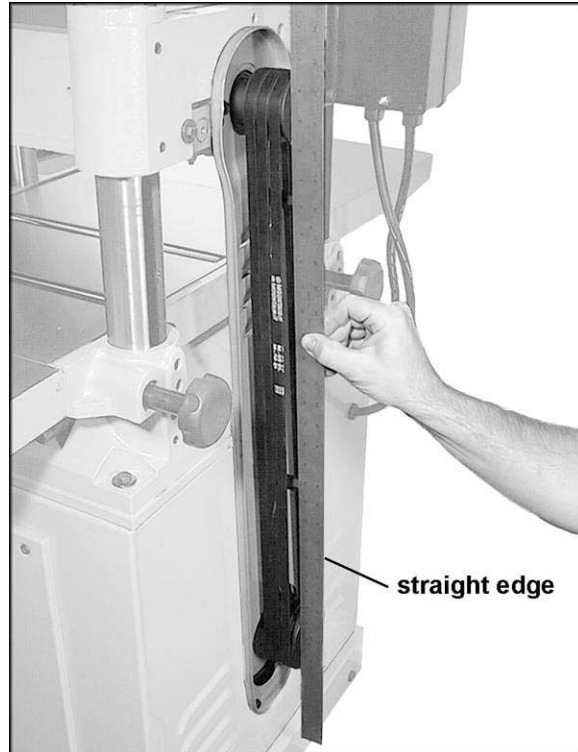

Figure 12
1. Remove the belt guard and place a straight edge against the faces of both pulleys (Figure 12).